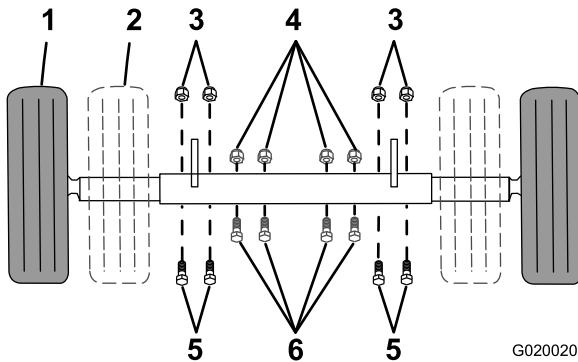

Figure 23
1. Connect the electrical plug of the machine with the electrical plug of the tow vehicle (Figure 23).
If your model is equipped with an adjustable axle (Figure 23), you can adjust the axle to the narrow position to move the machine through a narrow access point, such as the gate of a fence or the doorway of a building.
1. Support point (2)
7. Remove the bolts and nuts that secure the inner axle to the outer axle (Figure 23).
- Slide each side of the axle inward to the narrow position (Figure 23).
- Slide each side of the axle outward to the wide (tow) position (Figure 23).
9. Secure the axle with the bolts and nuts removed previously (Figure 23) and torque them to 87 N·m (64 ft·lb).